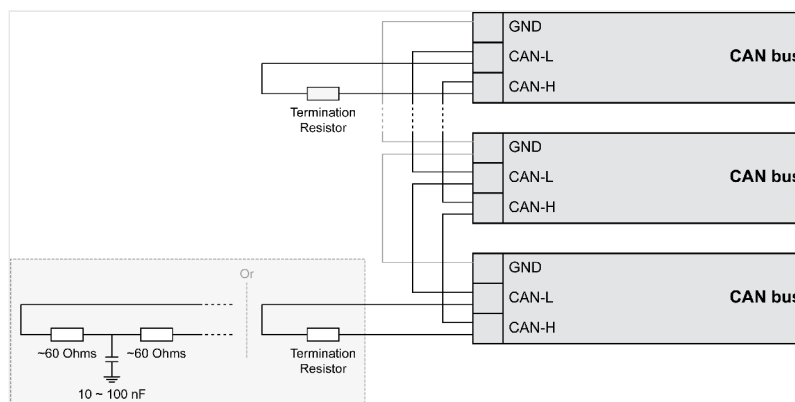

Fig. 69: CAN bus - termination
The termination resistor is connected between CAN-H and CAN-L (➡ Fig. 69).
- Divide the termination resistance into 2x60 Ohms with a center tap connected to ground via a capacitor of 10 to 100 nF (➡ Fig. 69).